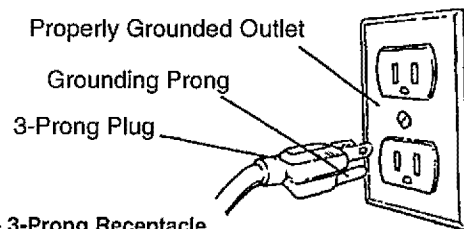

Figure 6 - 3-Prong Receptacle
- This tool is equipped with an approved 3-conductor cord rated at 300V and a 3-prong grounding type plug (see Figure 6) for your protection against shock hazards.
- Grounding plug should be plugged directly into a properly installed and grounded 3-prong grounding-type receptacle, as shown (Figure 6).